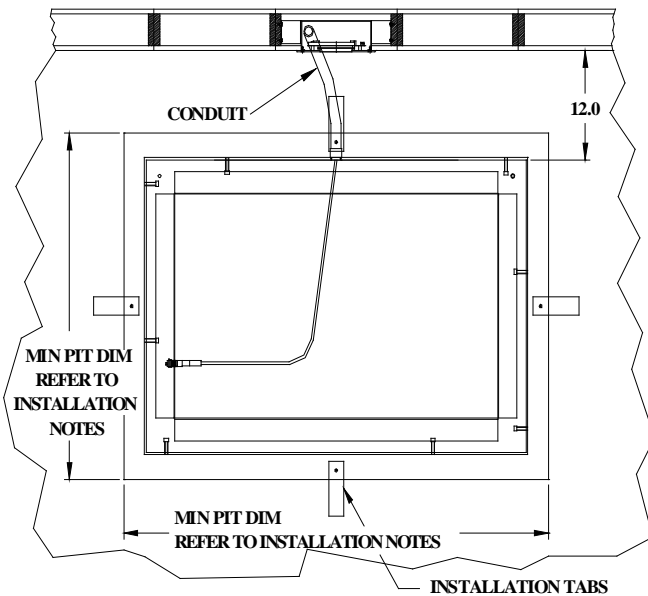

Figure 2: Conduit Placement and Installation Tabs
STEP 5: (Figure 2) Center the Scale Frame in the pit using the supplied installation tabs to suspend the frame in place (see "**Pit Area Installation Notes**").